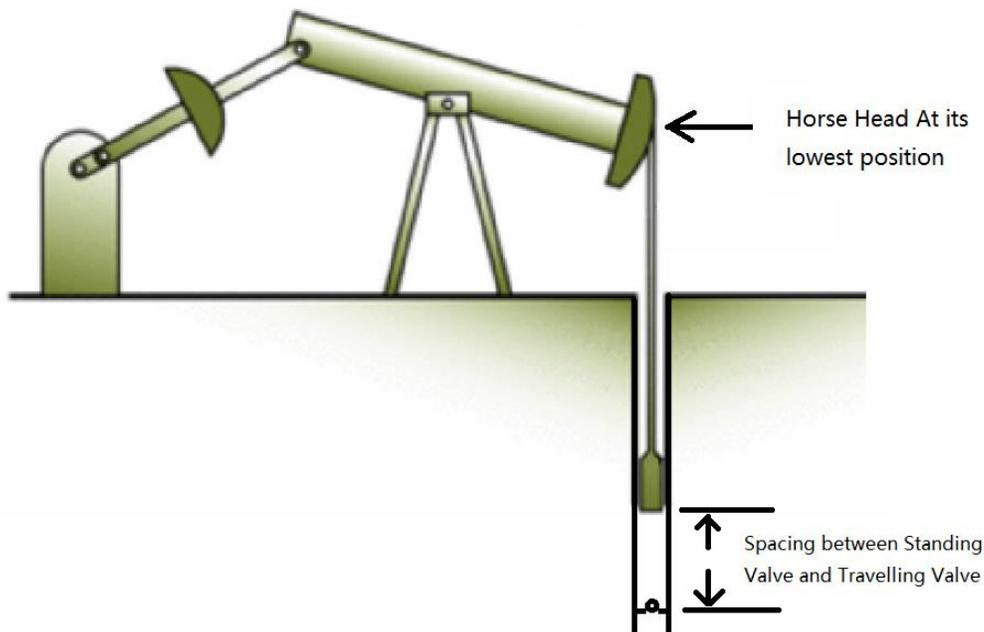

Figure 7 - Valve Spacing Explanation
- **Valve Spacing:** Defined in Figure 7